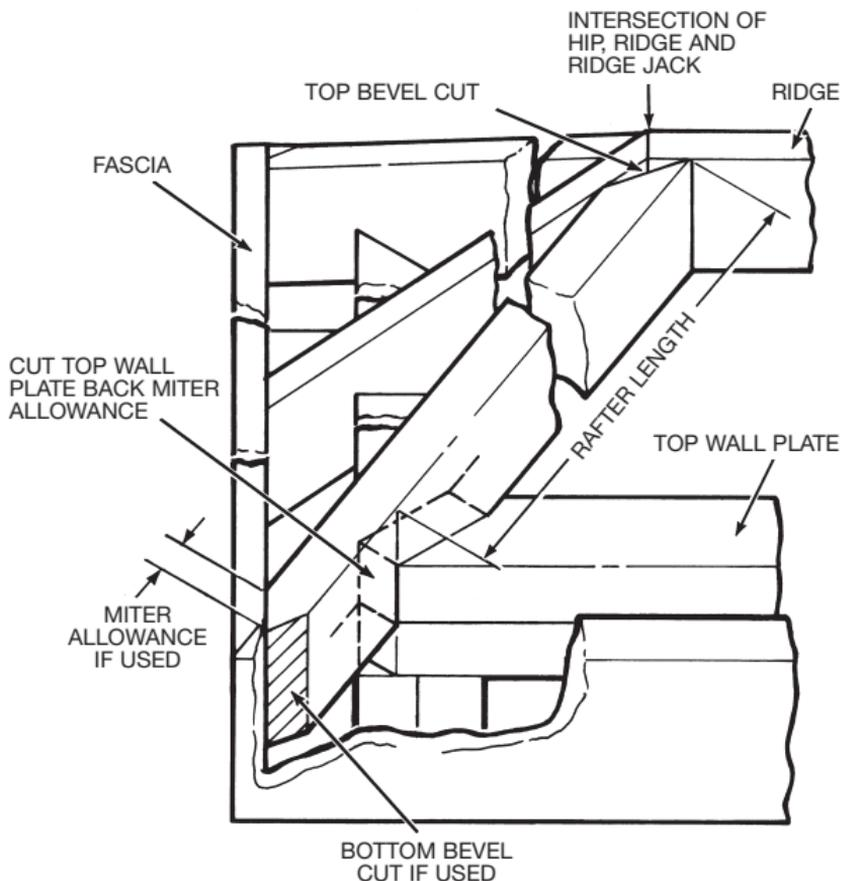
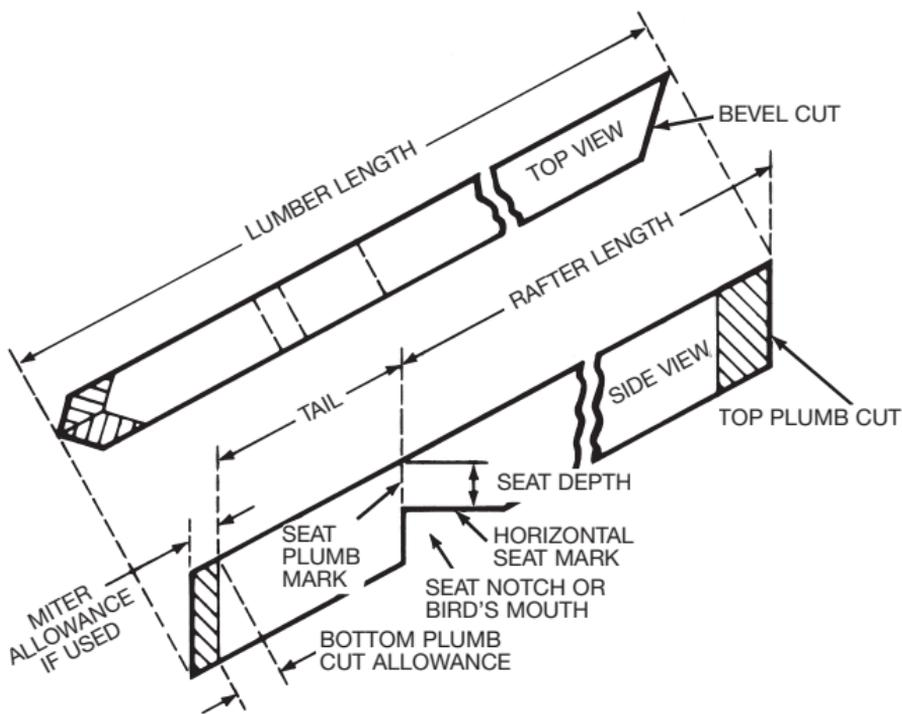

FIG. 9 View of Hip Rafter Layout.
FIG. 10 Hip Rafter Layout.
NOTE: If a miter is desired, add for hip or val miter allowance from the tables (see Figures 10 and 13).
STEP 1. TOP PLUMB CUT: The square is used in the same manner as in Step 1 of the common rafter top plumb cut. But now, read the Inch-Rise on the Hip-Val scale instead. Remember that the top plumb cut is a bevel cut and that opposite rafters will have opposite bevel cuts (see Figures 9 and 10). Therefore when placing the square on the rafter, place it on the long side of the bevel (the bevel cut will be explained in Step 4).
STEP 2. SEAT NOTCH: Measure the rafter length down along the top of the rafter and make the seat plumb mark in the same manner as you did for the common rafter (in our example it is 20' 3 7/8"). Next, measure along the seat plumb mark the seat depth and using the dashed line on the square, draw a perpendicular line for the horizontal seat mark (see Figure 10). Be sure all horizontal cuts for all rafters are the same distance from the top edge of the rafter at the wall line. For the proper fit of the hip rafter, cut the top wall plate corner off (as shown in Figure 9). This allows Hip seat notch to set in against a full flat corner, rather than against an outside point.
another plumb mark on the other side of the rafter just opposite of the bottom plumb mark (see Figure 10).
STEP 4. CUTTING HIP RAFTER PATTERN: With your saw set at 45° , cut the top plumb cut, making sure the top bevels are opposite for opposite rafters. Setting the saw at 45° automatically gives the plumb cut and the side cut bevel. Make bottom plumb cut on a 45° angle if miter is used. If a bevel is not needed, set saw at 90° . The seat notch is made with the saw at 90° (see Figures 9 and 10).
rafter even with top of ridge. Now mark across top of ridge (as shown). This mark will be the center of the two intersecting hips. If a common rafter is to be used, the ridge will be cut off at this mark and the common rafter butted up against it (see Figure 9). If no common rafter will be used, cut the ridge about 2" longer. This will allow you to nail through the ridge into the hip.